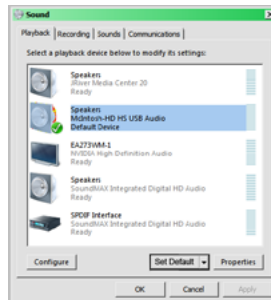

Figure 11
- Referring to figure 11, first select “McIntosh-HD HS USB Audio” and then click on the “Set Default” button.